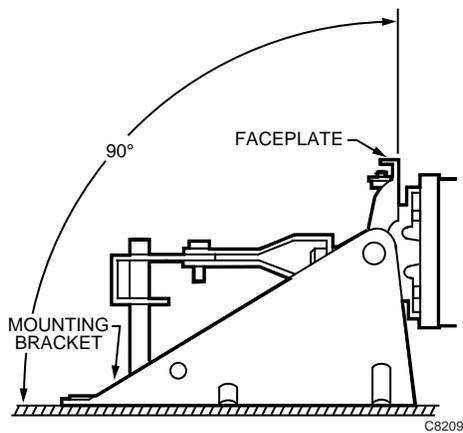

Fig. 2. External Mounting Faceplate Positioning.
- 2 Check faceplate position (Fig. 2). Adjust faceplate position if necessary.